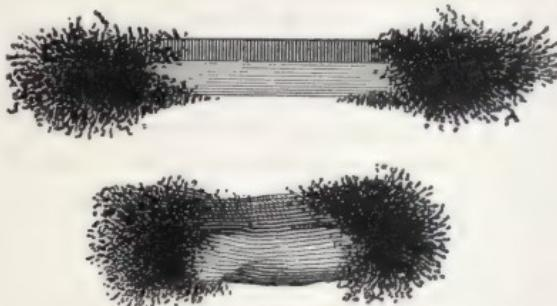

FIG. 9.
**20.** If a bar magnet is dipped into iron filings, the filings are attracted toward the two ends and adhere there in tufts, while toward the center of the bar, half way between the two ends, there is no such tendency. (See Fig. 9.) That part of the magnet where there is no apparent magnetic attraction is called the **neutral line**, and the parts around the two ends where the attraction is greatest are called **poles**. An imaginary line drawn through